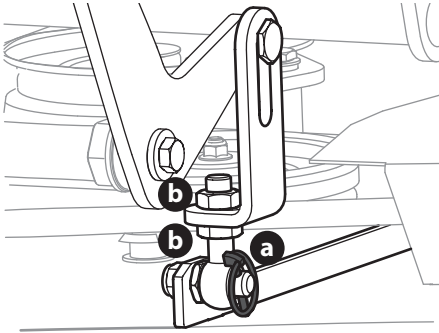

Fig. 47
- Adjust the eyebolt (a) at the left front of the deck so that the blade-to-ground height at the right outside blade tip matches that of the left outside blade tip. This is done by loosening the jam nuts (b) on the eyebolt (a) and tightening the upper jam nut (b) to raise the deck and loosening the jam nut (b) to lower the deck. The right outer blade tip height is fixed by the right, front eyebolt (a) so you must adjust the left outer tip to match it (Fig. 47).
- Once the proper adjustment is made, re-tighten the jam nuts (b) (Fig. 47).
- Loosen the jam nuts (b) at the rear left and right of the deck eyebolts (a) (Fig. 47).
- Start at the rear right to raise the rear of the deck, tighten the upper jam nut (b) to raise the deck or loosen the upper jam nut (b) to lower the rear of the deck (Fig. 47).
- Adjust the jam nut (b) at the rear left to take the "slack" out of the threaded rod (Fig. 47).
- Tighten both lower jam nuts (b) to secure the deck adjustment (Fig. 47).
- The final adjustment would be to take the "slack" out of the left rear linkage if the rear of the deck was raised by adjusting the jam nuts (b) on the eyebolt (a). Loosen the jam nuts (b) and tighten the upper jam nut (b) to remove "slack" (Fig. 47).
- In many cases it will be necessary to adjust deck height using both eyebolt (a) adjustments and pitch adjustment to achieve the correct blade-to-ground heights. If you remember that the front right blade tip adjustment is fixed and you level to that height, adjusting the deck will be simplified (Fig. 47).